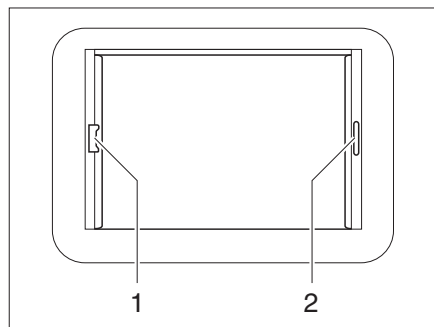

Fig. 53 Heki skylight, blind lock
*Closing:* ■ Pull out Roman shade at the handle (Fig. 53,2) and release in the required position. The Roman shade will stay in that position.
*Closing:* ■ Pull the roller insect screen at the handle (Fig. 53,1) to the opposite handle of the Roman shade (Fig. 53,2) and allow to engage.
*Opening:* ■ At the back, press the roller insect screen handle upward and unhook the roller insect screen at the Roman shade (Fig. 53,2).